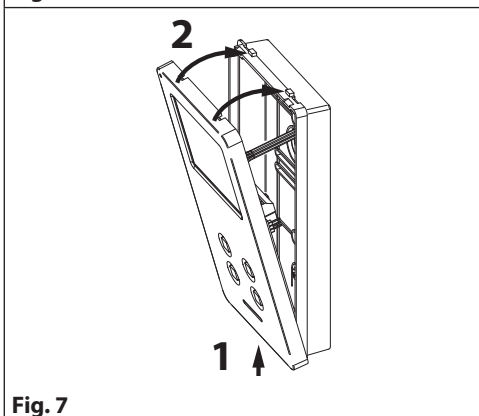

Fig. 7
- Once testing is complete and all the necessary adjustments are made, close the unit as shown in Fig. 7: first hook in the bottom and then the upper part until you hear a "CLICK!".